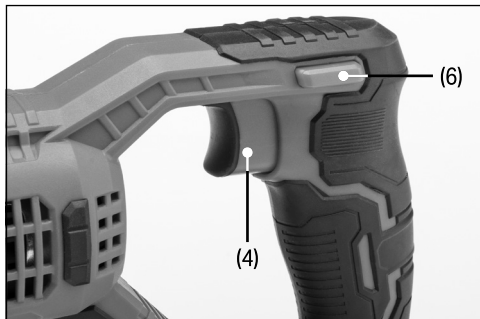

Fig. 4
7.1 Switch and Variable Stroke Rate Control - Fig.4